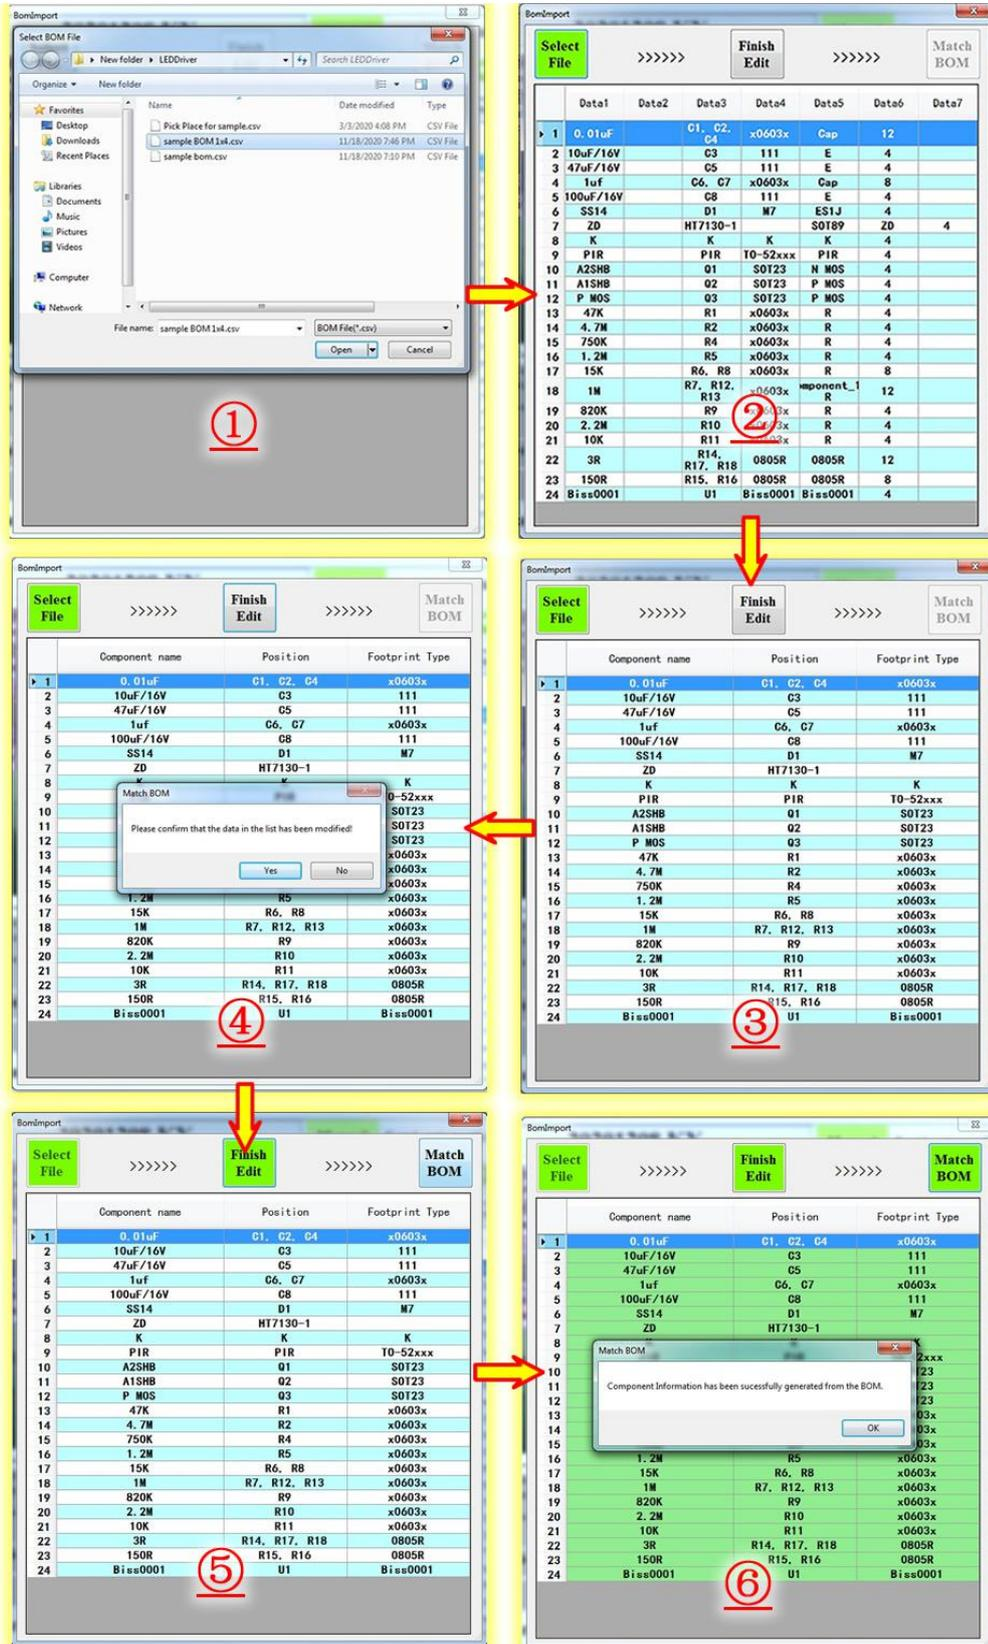

Figure 5-9-10
4. Click "Match BOM", after the prompt is successful, click "OK" to complete the BOM import. As shown Figure 5-9-10